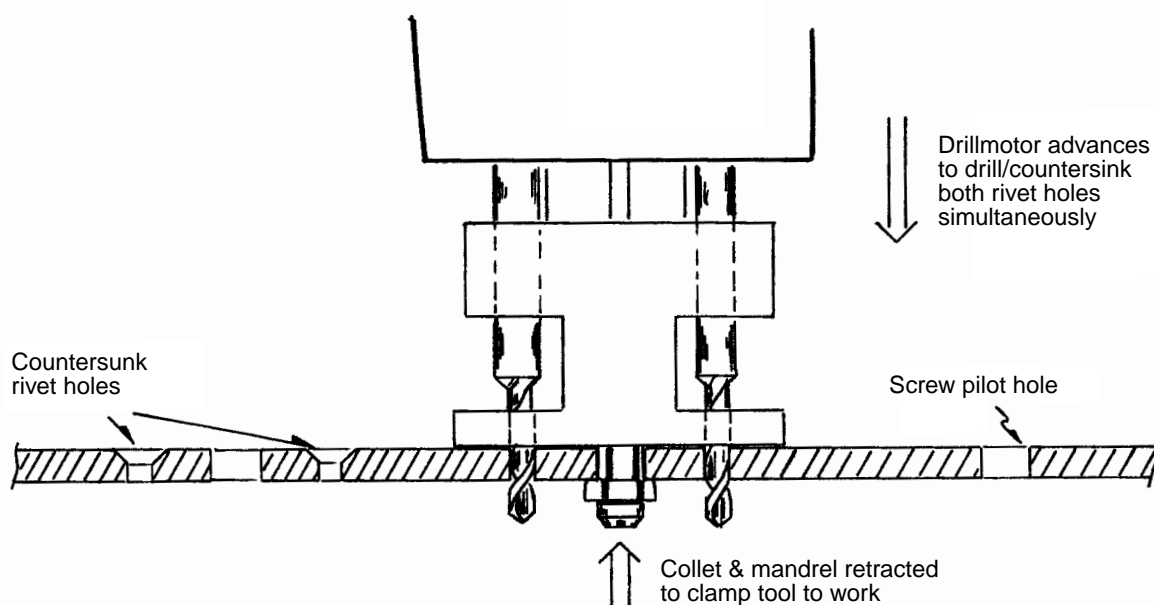

Figure 4 - Operation of Nut Plate Drillmotor
- 5.3.1 Operate the nut plate drillmotor as follows (Figure 4):